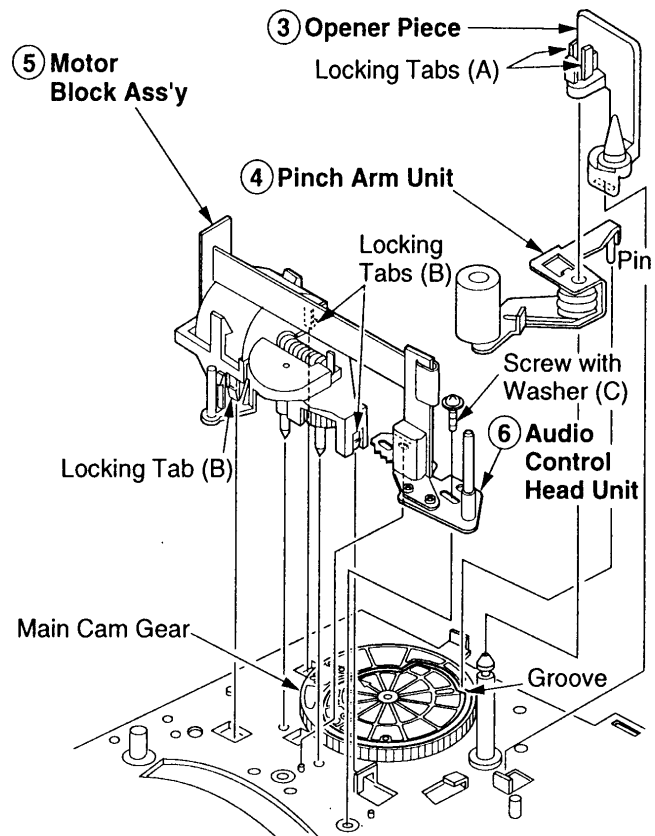

Fig. 3 - Opener Piece/Pinch Arm Unit/Motor Block/Audio Control Head Removal
**Opener Piece/Pinch Arm Unit/Motor Block/Audio Control Head Removal (Fig. 3)**
1. Release two (2) tabs (A) and lift the opener piece to remove it.
3. Release three (3) tabs (B) and remove one (1) screw with washer (C). Then, remove the motor block assembly and the audio control head.